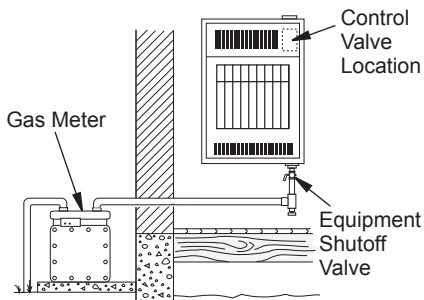

Figure 15 - Checking Gas Joints for Natural Gas
3. Check all joints from gas meter for natural or propane/LP supply to equipment shutoff valve (see Figure 15 or 16). Apply a noncorrosive leak detection fluid to all joints. Bubbles forming show a leak.
4. Check all joints from equipment shutoff valve to control valve (see Figures 15 or 16, page 12). Apply a noncorrosive leak detection fluid to all joints. Bubbles forming show a leak.